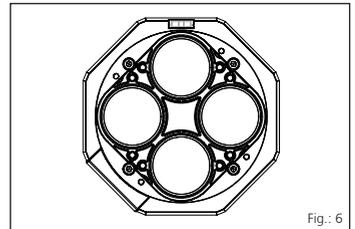

Fig.: 6
*MSH PolySafe MV is supplied as standard for 3-level installation (see fig.: 6).*